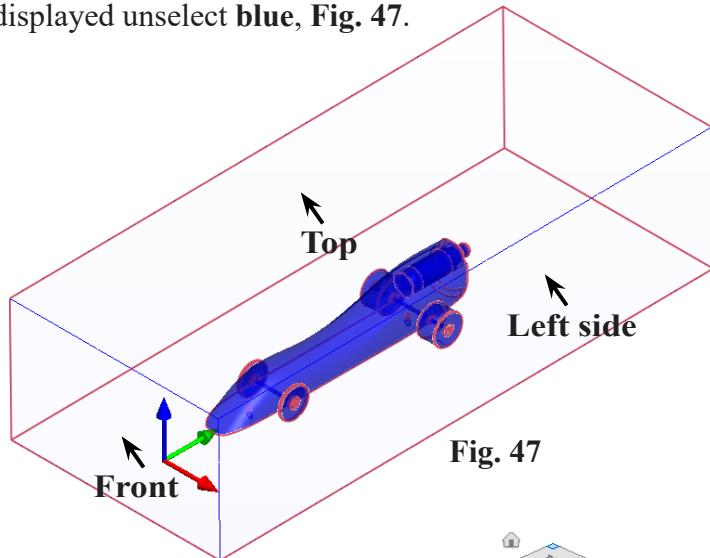

Fig. 47
1) click the 3 surfaces visible in Iso view - 3 edge will be displayed unselect blue, Fig. 47.